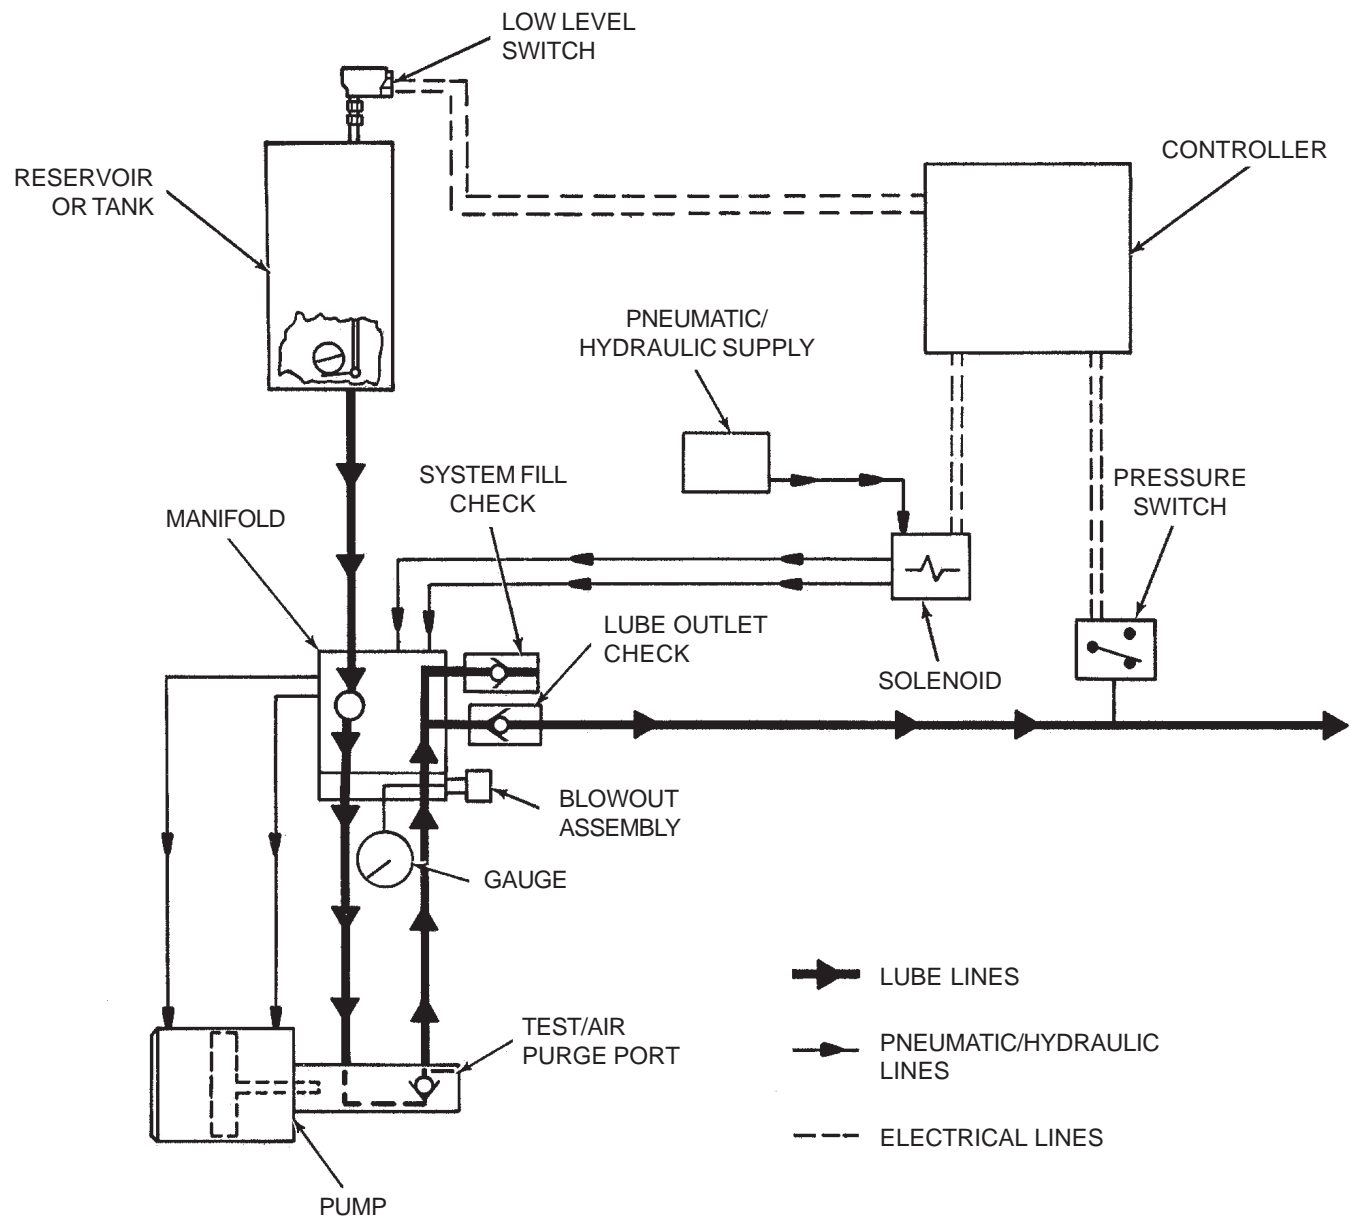

Figure 1-1. Modu-Flo Functional Schematic
1.2.1 Figure 1-1 shows a functional schematic of a Modu-Flo system.